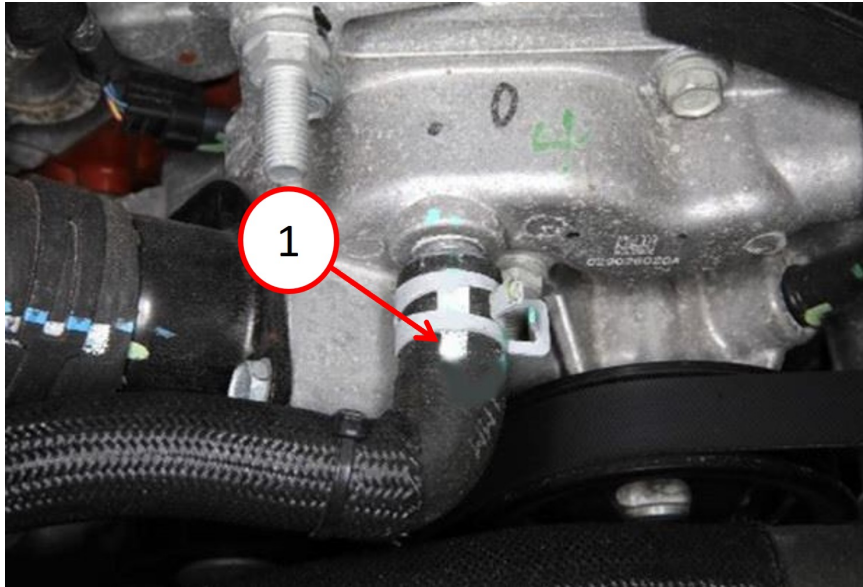
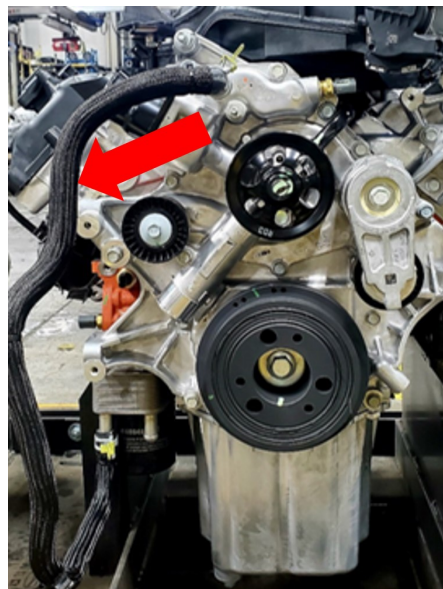

Fig. 2
Fig. 3
**CAUTION!** When installing the new oil cooler coolant hose, ensure the white alignment mark located on the hose (Fig. 2) is in the twelve o'clock position. Failure to do so may result in a rub through condition on the oil cooler coolant hose from the engine serpentine belt.
7. Install the **new** oil cooler coolant hose to the water pump. Ensure proper twelve o'clock hose alignment (Fig. 2) and routing (Fig. 3) .